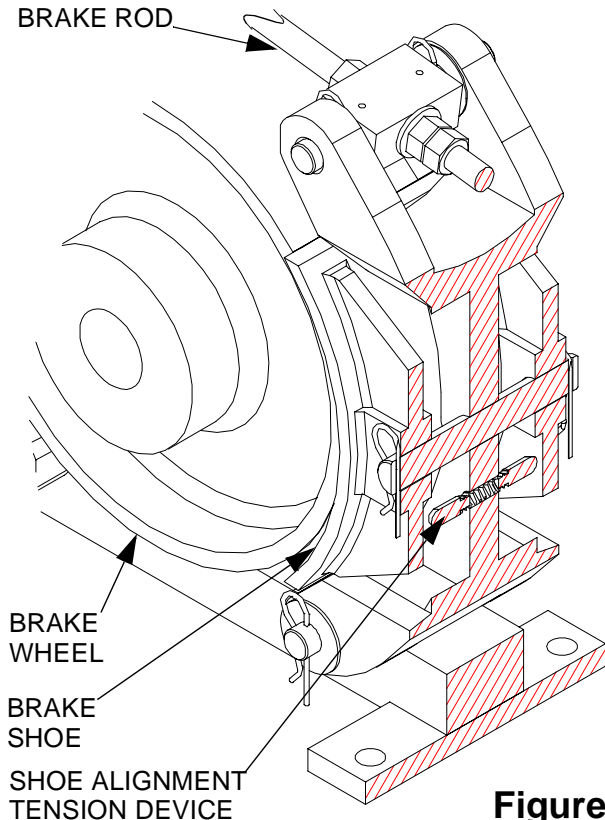

Figure 3
6.7.(c): Spring loaded pins in each link arm bear against the inside of the shoe; see Fig. 3. This provides tension to maintain shoe alignment when the brake is released. The tension is not adjustable. When a shoe is replaced make sure that both shoe alignment tension mechanisms are re-installed.